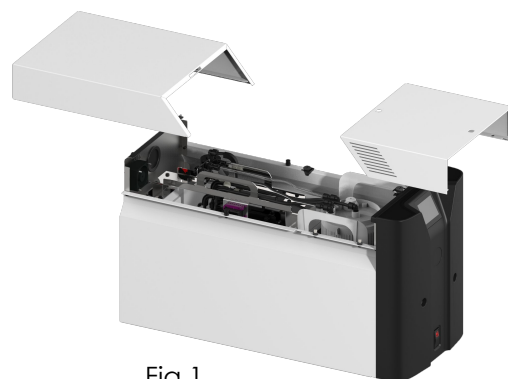

Fig 1
1. Remove the top covers to access the tubing connection points. To remove the covers, undo the 4 1/4 turn latches on the top and back of the unit, before lifting the front, then back covers up and away from the unit (Fig 1). Remove packaging from around the reservoir.